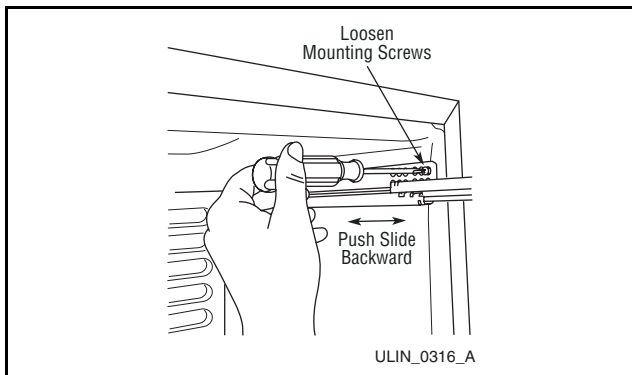

Figure 47
3. Retighten the screws (**Figure 47**).